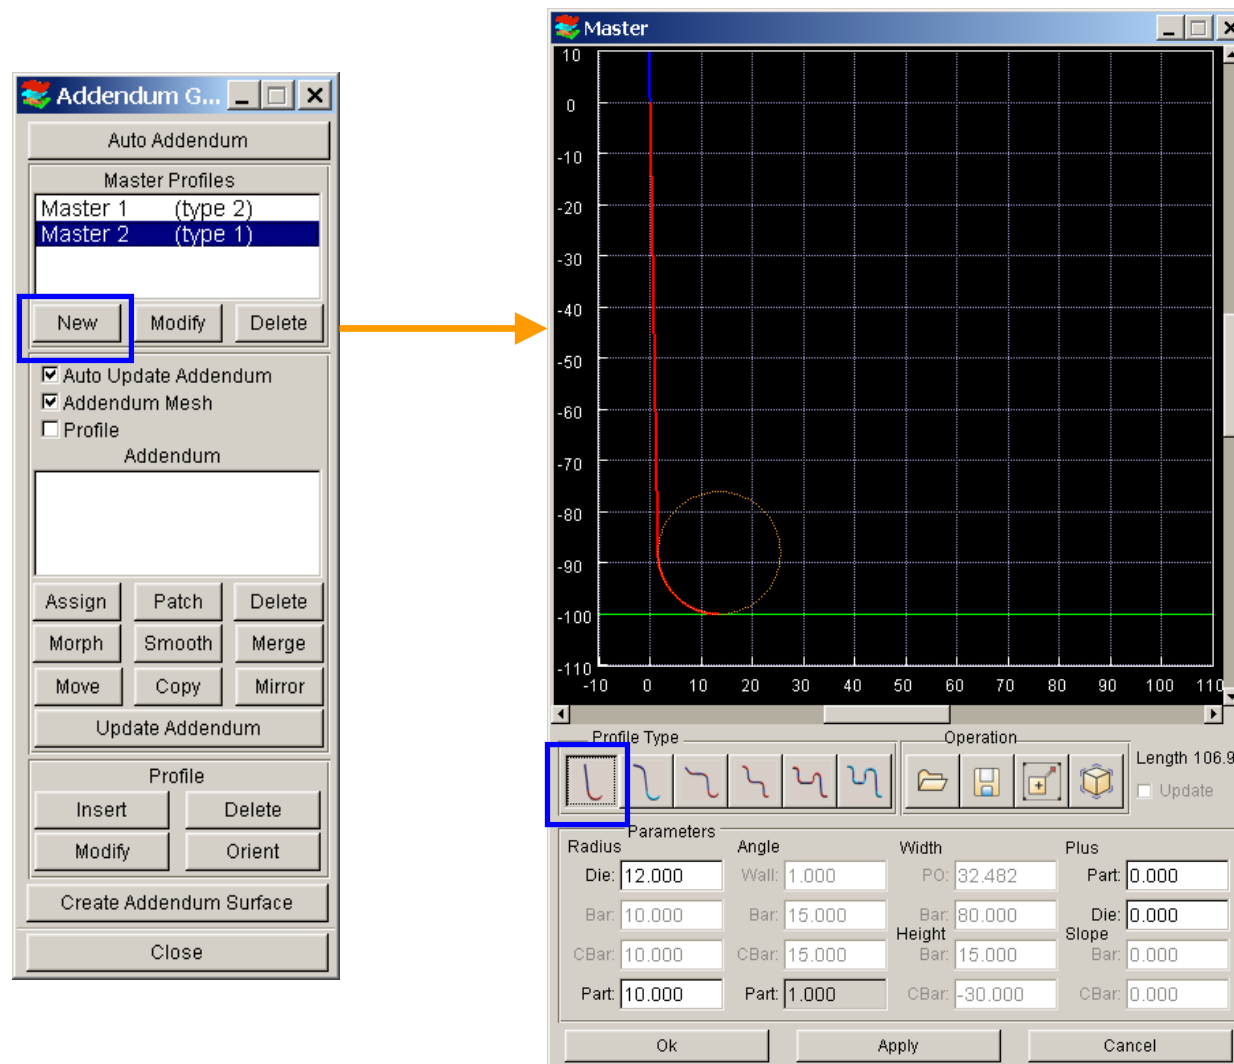

Figure 3.9
- h) Select Profile Type, **#1** (See Figure 3.9)